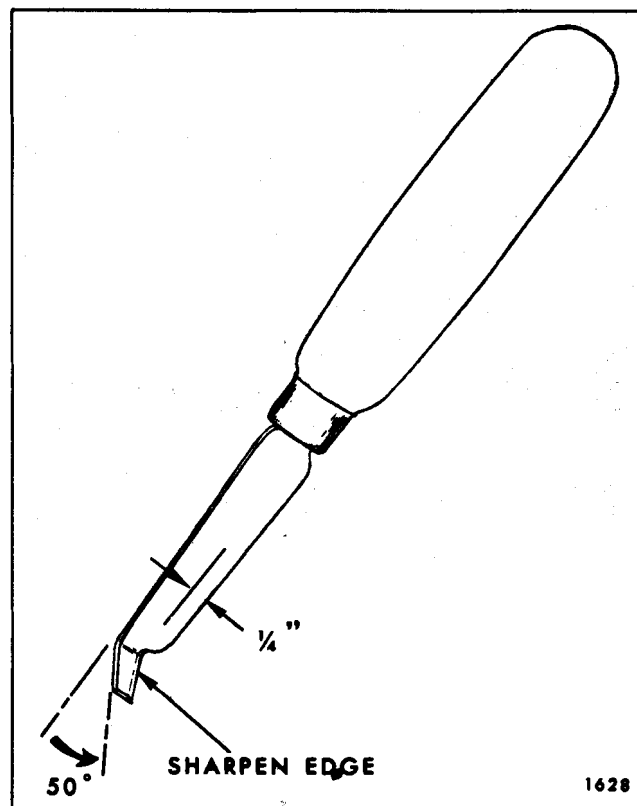

Fig. 11-10-Fabric Cover Trimming Tool
- NOTE:** When trimming cover, tool J-21092 or equivalent may be used (Fig. 11-10).